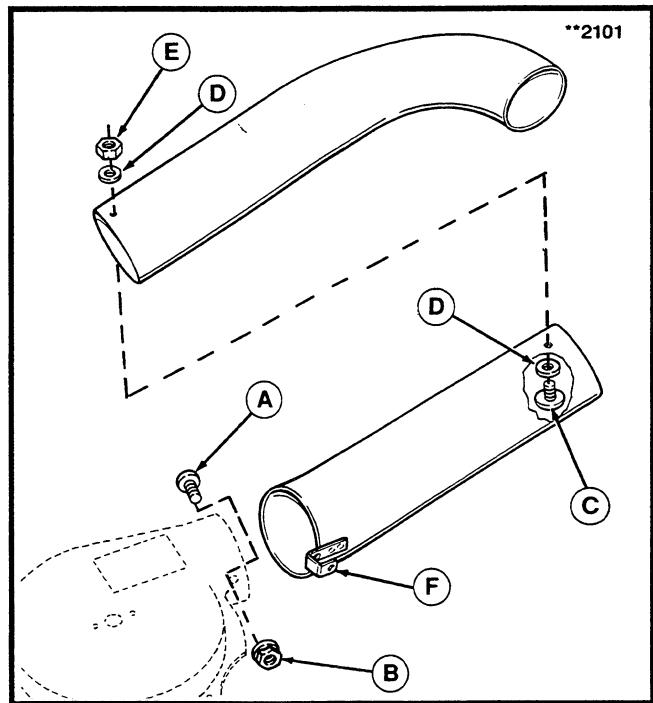

Figure 9.
11. Install the 1/4-20 x 5/8" roundhead bolt (A, figure 9) through the inside of turbo housing discharge as shown in figure 9. Secure with 1/4-20 locknut (B).
12. Assemble the upper and lower tubes as shown in figure 9. Use trusshead screws (C, figure 9) with washers (D) on each side of tubes, and secure with hex nuts (E).
13. Apply dry talc powder to rubber seal at cover opening. Install tube assembly as far as possible into opening so that lower tube can be installed at blower housing. Latch lower tube clip (F, figure 9) onto bolt and locknut (installed in step 11).